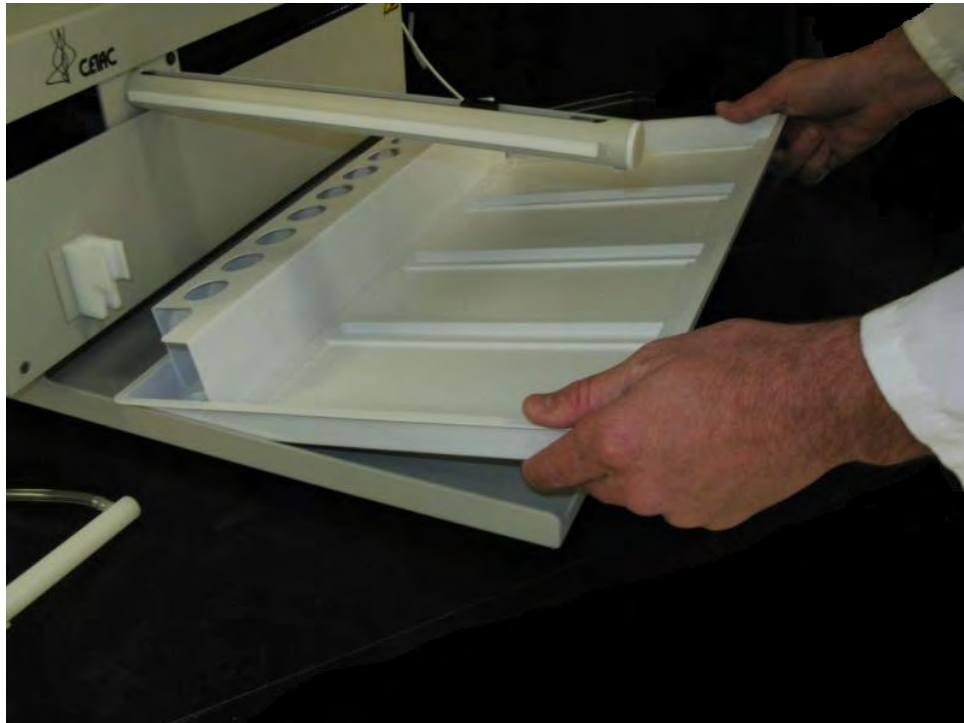

Figure 1-7. Removing the tray.
5. The Auto Sampler tray is next to be removed. Lift up the tray and pull forward. See Figure 1-7.